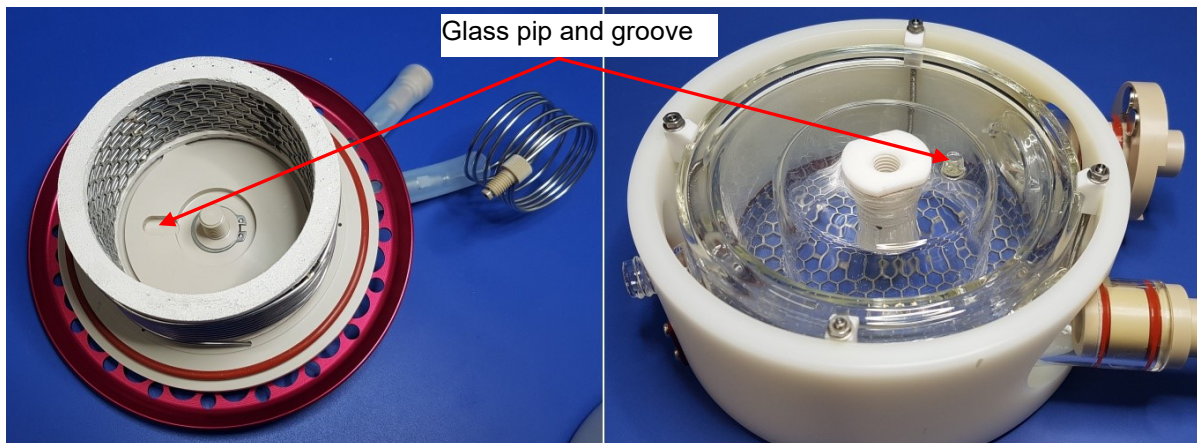

Figure 22 Glass pip alignment for HT reactor
3. Carefully remove the reactor cover (with coil attached) out of the glassware. See Figure 22.
4. There is a glass pip on the reactor glass body for coil alignment. Ensure that this glass pip is sitting properly inside the groove on the reactor cover before screw in the clamp knob. See Figure 22. Failure to do so might cause damage on the glass body.
If the reactor cover and temperature sensor fitment is incorrect, it will cause heat loss or temperature measurement error. This will reduce the R4 heating efficiency and take longer time (or unable) to achieve the target temperature. Ensure the glass pip is aligned correctly (refer Figure 22) before screw in the reactor coil (cover).